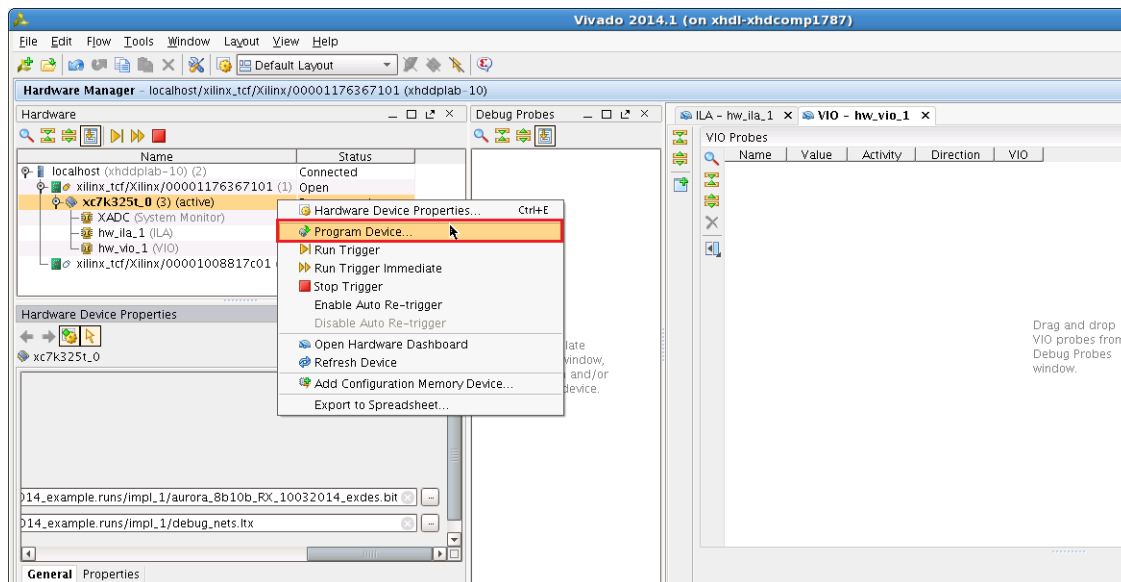

Figure 23: Program Device
- Right-click the device in the Hardware list and select **Program Device...** (Figure 23). Ensure that the bitstream file path and name are correct and click **OK**.